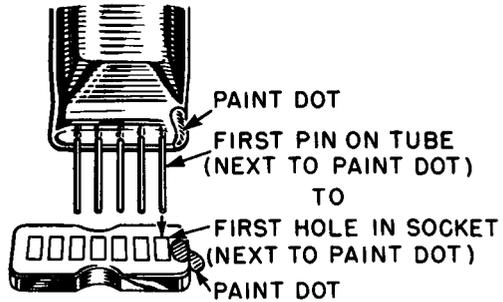

Fig. 4-1. Subminiature tube insertion. *Motorola, Inc.*
6. Look at the tubes to make sure that they are in their proper sockets. (Surprising as this may seem, many faults are cured by this one step of inspection.) Subminiature tubes are especially difficult to check, since they may fit in each other's sockets easily, and even in their own sockets backwards. Where a paint dot appears next to the first pin (see Fig. 4-1) insert that tube so that its dot corresponds with the paint dot on the chassis, then the first pin of the tube will correspond to the first hole in the socket. Where there is no paint dot, examine the pins to find the two with continuity (the filament) then check with a tube manual to determine the pin relationship.